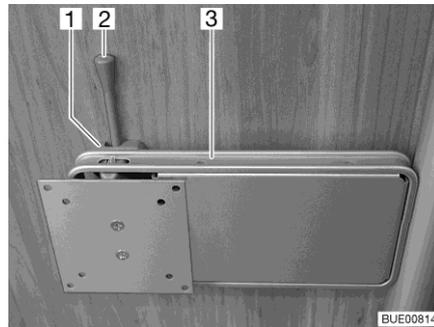

Fig. 84 Holder on the column
- Push the release lever (Fig. 84,2) to the side and turn the holder (Fig. 84,3) with the flat screen to the desired position.
- Turn the flat screen back until the holder (Fig. 84,3) engages in the lock (Fig. 84,1).